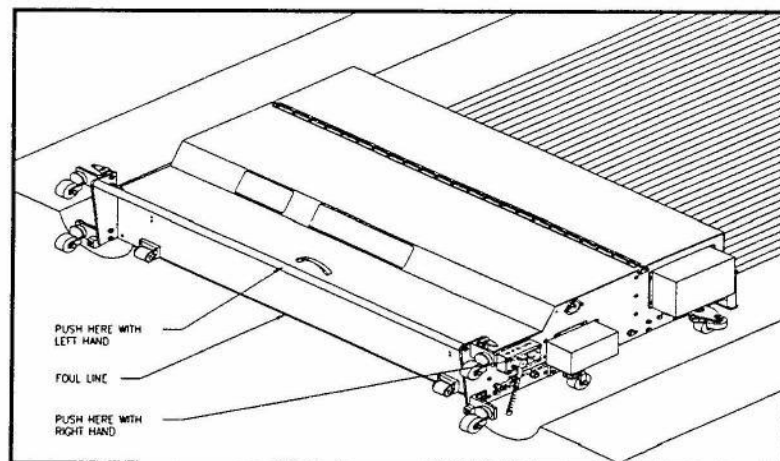

Figure 8
11. Press the start button while pushing the GEMINI away from the foul line. See figure 8.